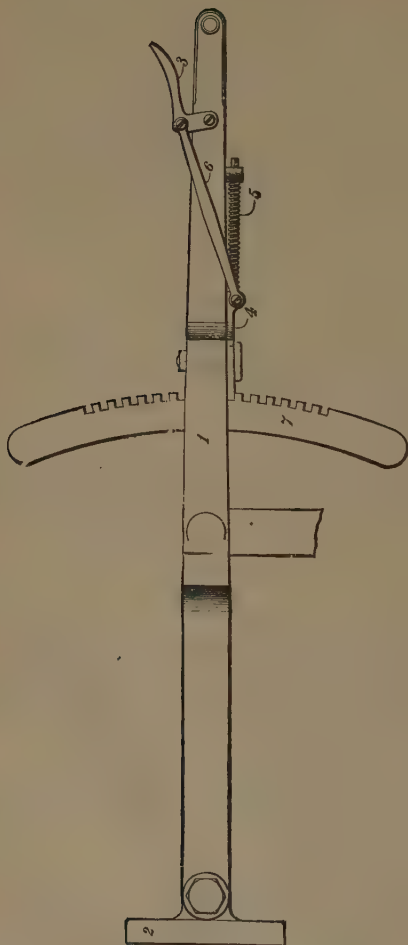

Fig. 209. Reverse-lever and Attachments.
A. By a latch, worked by a trigger lying alongside the handle of the lever; the latch working in notches on the upper side of the quadrant. (See Fig. 209.)